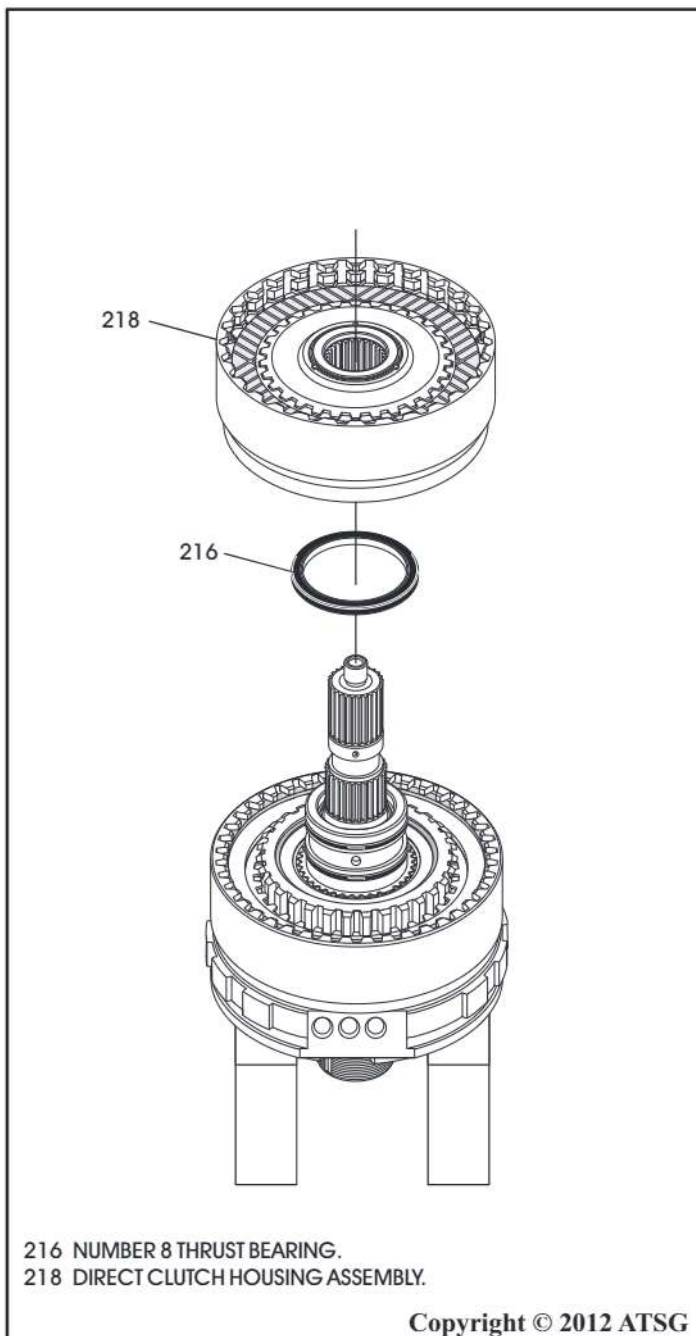

Figure 130
11. Remove the direct clutch housing assembly off of the underdrive center shaft, as shown in Figure 130, and set aside for direct clutch sub assembly.
12. Remove the number 8 thrust bearing, as shown in Figure 130.